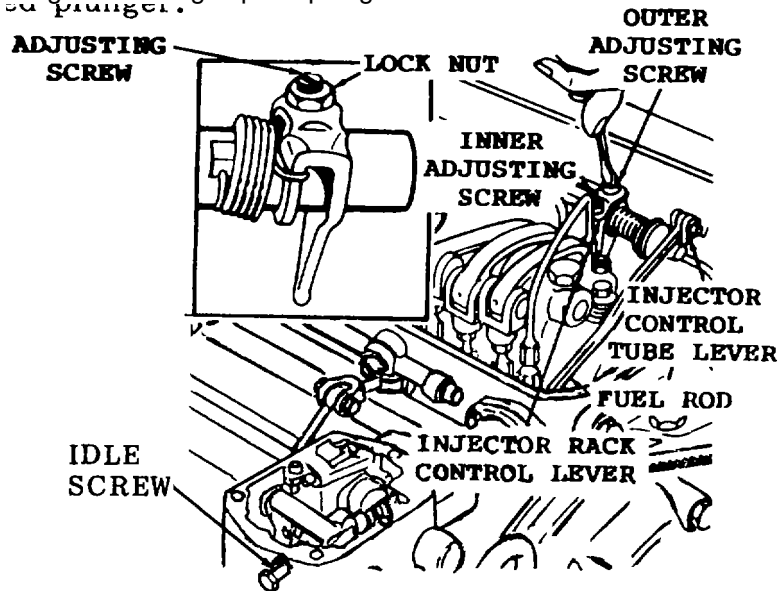
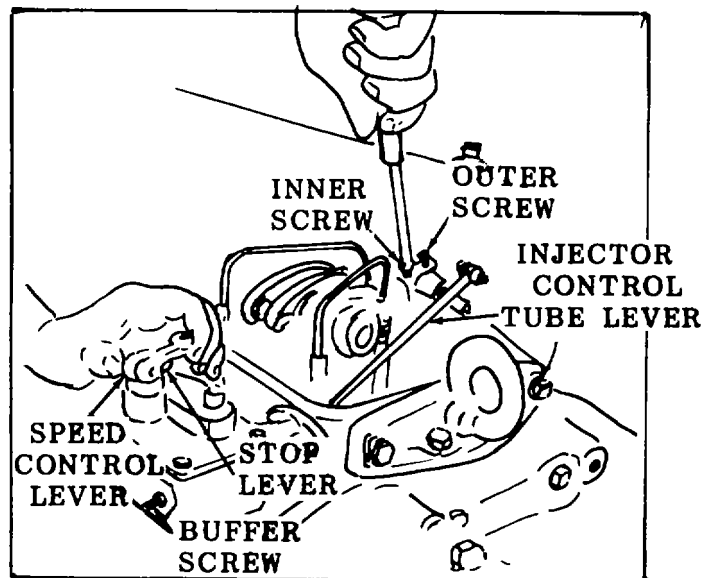
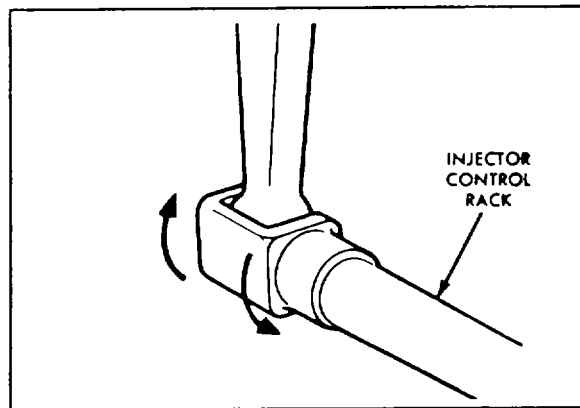
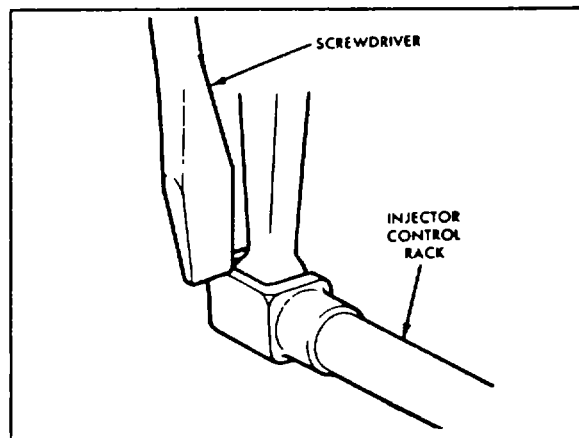

Figure 3-71. Control Rack Lever Adjustment.
Figure 3-72. Positioning No. 1 Injector Rack Control Lever.
Figure 3-73. Checking Rotating Movement of Injector Control Rack
Figure 3-74. Checking Injector Control Rack "Spring"
- (1) Disconnect linkage attached to the governor speed control lever.
- (2) Turn the idle speed adjusting screw (figure 3-71) until 1/2 inch of the threads project from the locknut, when the nut is against the high speed plunger.
- (3) Back out the buffer screw (figure 3-72) approximately 5/8 inch.
- (4) Loosen all inner and outer injector rack control lever adjusting screws and locknuts. Be sure all of the control levers are free on the injector control tube.
- (5) Move the speed control lever to the maximum speed position (figure 3-72). Hold the lever in that position with light finger pressure.
- (6) Turn the inner adjusting screw on No. 1 injector rack control lever down until a slight movement of the control tube is observed or a step-up in effort is noted. This will place the No. 1 injector rack in the full-fuel position. Turn the outer adjusting screw down until it bottoms lightly on the injector control tube. Then, alternately tighten both the inner and outer adjusting screw. Torque adjusting screws to 24-36 lb-in (3-4 Nm).
- (7) To be sure of the proper rack adjustment, hold the speed control lever in maximum speed position and press down on the injector rack with a screwdriver or finger tip and note "rotating" movement of the injector control rack when speed control lever is in maximum speed position (figure 3-73). Hold the speed control lever in maximum speed position and, using a screwdriver, press downward on the injector control rack. The rack should tilt downward and when pressure of the screwdriver is released, the control rack should "spring back upward" (figure 3-74).
- (8) If the rack does not return to its original position, it is too loose. Back off the outer adjusting screw slightly and tighten the inner adjusting screw slightly, this will correct this condition.
- (9) The setting is too tight if, when moving the speed position to maximum speed position, the injector rack becomes tight before the speed control lever reaches the end of its travel (as determined by the stop under the governor cover). This will result in a step-up in effort required to move speed control lever to end of its travel. To correct this condition, back off the inner adjusting screw slightly and tighten the outer adjusting screw slightly. Torque the adjusting screws to 24-36 lb-in (3-4 Nm).
- (10) Hold the button screw (figure 3-72) and tighten the locknut.
- (11) Manually hold the No. 1 control lever in the fuel position and turn No. 2 control lever inner adjusting screw until injector rack has moved to fuel position and inner adjusting screw is bottomed on control tube. Turn outer adjusting screw down until it bottoms lightly on the injector control tube. Alternately tighten both the inner and outer adjusting screws until they are tight.
- (12) Recheck lever and rack No. 1 to make sure that it has remained snug on ball end of injector control rack. If the rack of No. 1 is loose, back off inner adjusting screw and tighten outer screws.
- (13) Position remaining control levers per steps (7) and (9). When properly adjusted, all levers will be snug on injector control racks.
- (14) Reconnect fuel rod to control tube.
- (15) Turn idle speed adjusting screw (figure 3-71) until it projects 3/16 inch from the locknut to permit starting the engine.
- (16) Refer to paragraph 3-34 and install rocker arm cover.